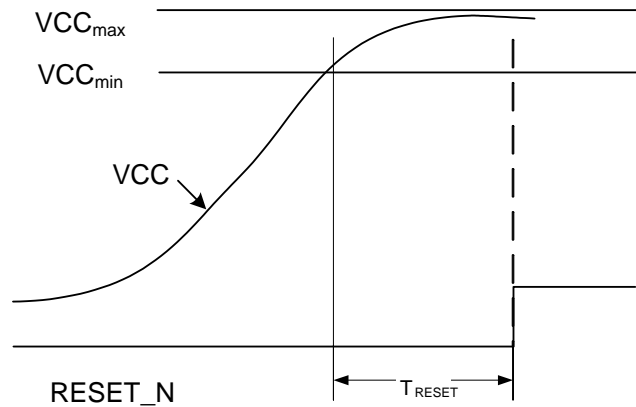
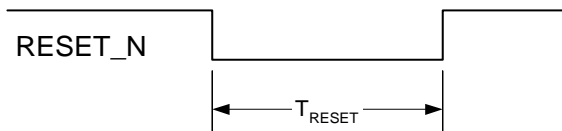

Figure 4.1. Conditions for Use of RESET_N
Figure 4.2. RESET_N Minimum Timing
- Reset on RESET_N signal can be LOW as the supply becomes stable (shown in Figure 4.1 on page 20), or pulled LOW for at least T_{RESET} (shown in Figure 4.2 on page 20).
VCC must be stable between the limits shown in the Normal Operating Conditions section on page 13 for T_{RESET} before RESET_N goes HIGH, as shown in Figure 4.1. Before accessing registers, RESET_N must be pulled LOW for T_{RESET} . This can be done by holding RESET_N LOW until T_{RESET} after stable power, or by pulling RESET_N LOW from a HIGH state for at least T_{RESET} , as shown in Figure 4.2.